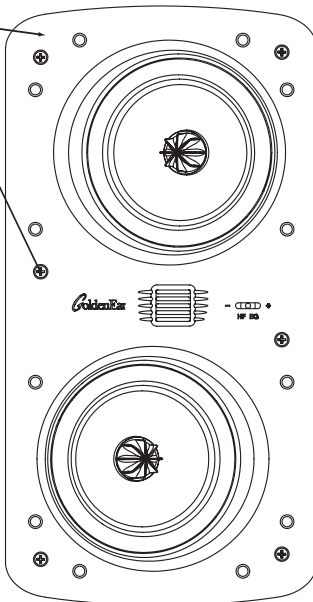

Figure 4
- Loosen the six rotating lock arms on the speaker by turning the arm screws on the front of the speaker counterclockwise 1/2 to 1 turn, just enough to allow the lock arm to move freely (Figure 4).